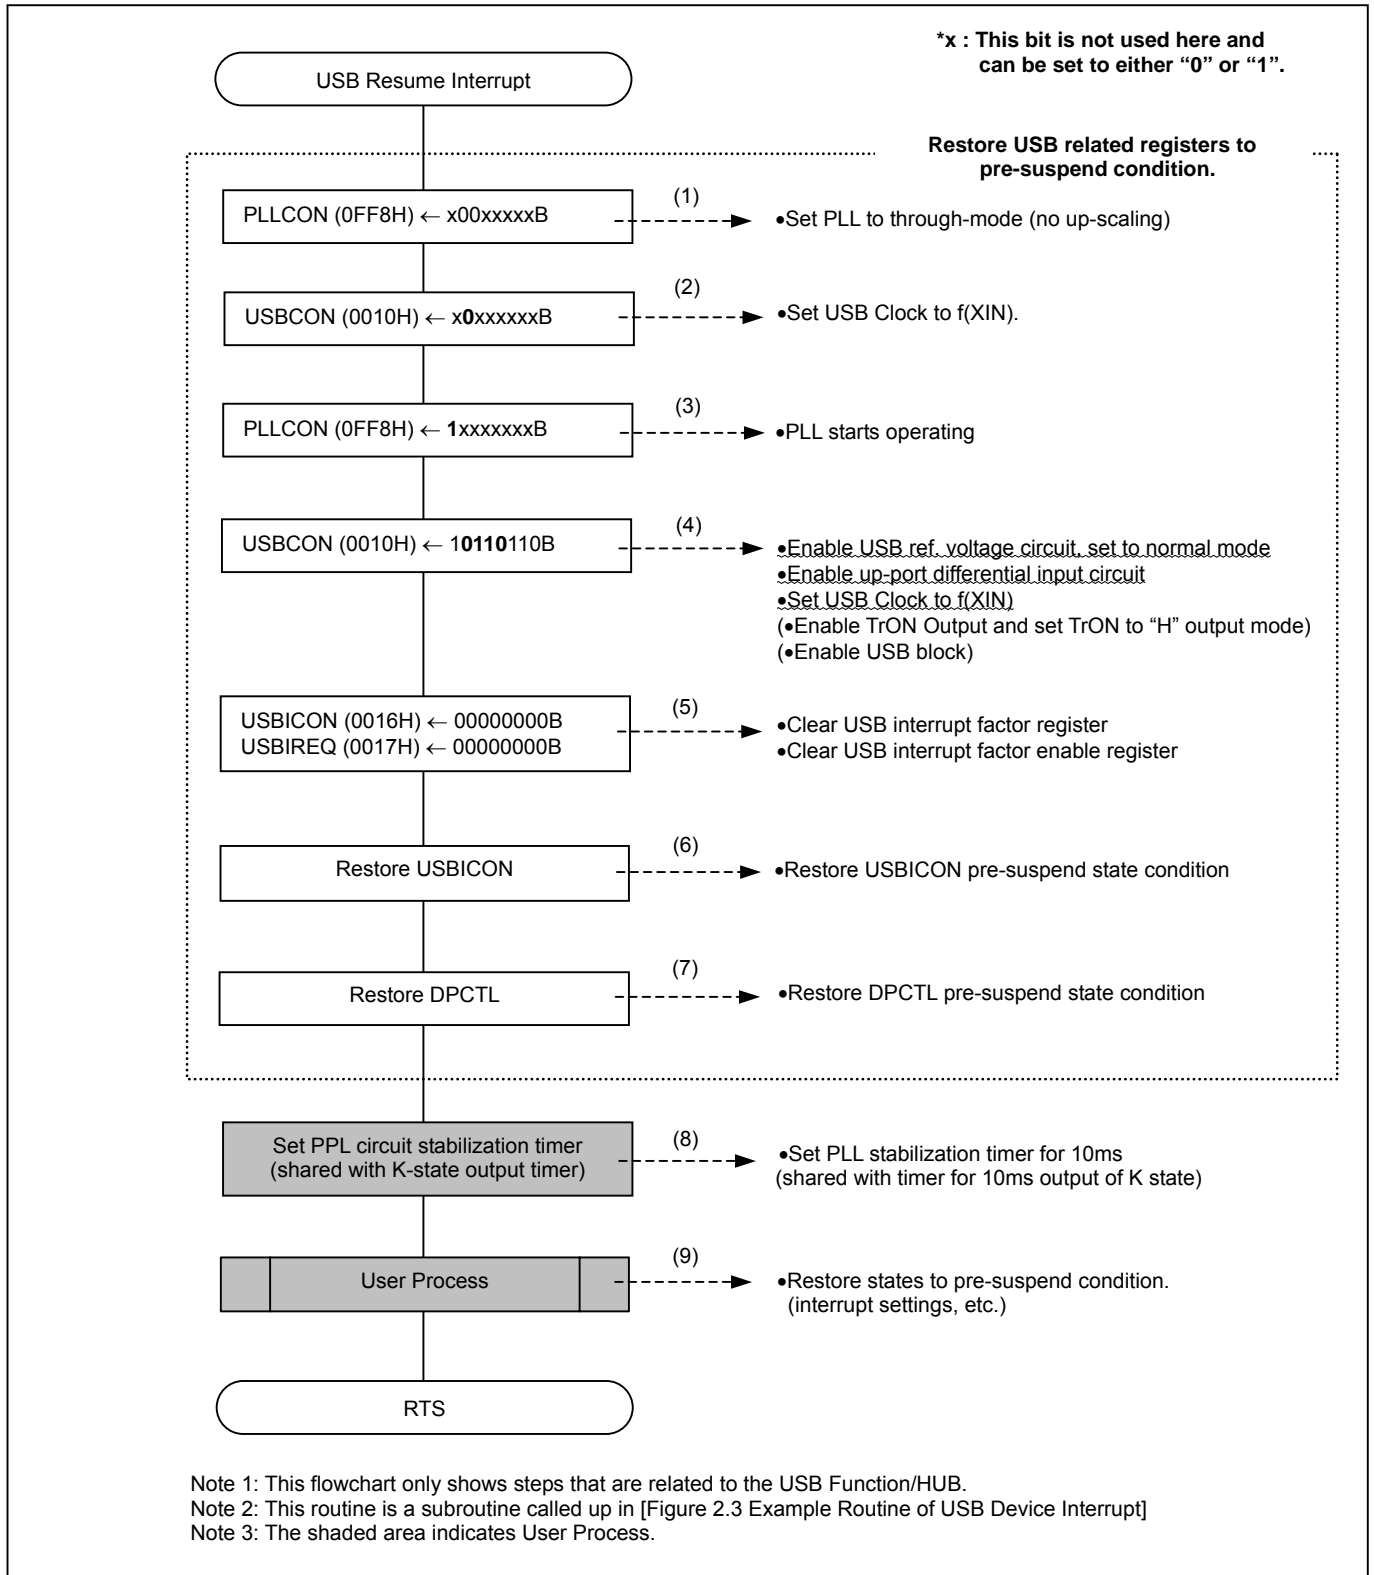

Figure 2.6 Example of USB Resume Interrupt Routine
(5) USB resume interrupt processing
- An example of the processing routine that is executed when a USB suspend interrupt is accepted is shown in Figure 2.6.
The following are detailed descriptions of the steps shown in [Figure 2.6 Example of USB Resume Interrupt Routine].